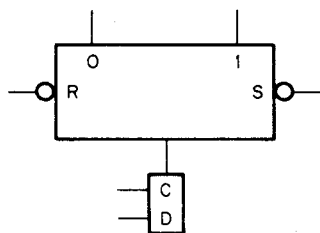

Figure 8-6 Symbol, Flip-Flop Function
The symbol in Figure 8-6 shows the flip-flop function. The pins are numbered counterclockwise on a standard flip-flop. The flip-flop has four possible inputs: set (S), reset(R), data(D), and clock (C); and two data outputs, logic 0 (low) and logic 1 (high). If the data input is high and a pulse is applied to the clock input, the flip-flop sets to the logic 1 state. If the data input is low and a pulse is applied to the clock input, the